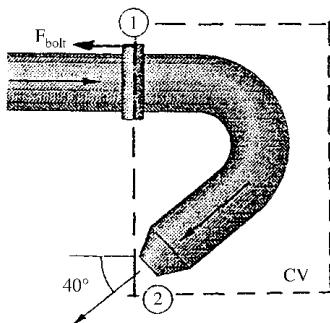

Fig. P3.60
- 3.60** Water at 20°C flows through the elbow in Fig. P3.60 and exits to the atmosphere. The pipe diameter is  $D_1 = 10 \text{ cm}$ , while  $D_2 = 3 \text{ cm}$ . At a weight flow rate of 150 N/s, the pressure  $p_1 = 2.3 \text{ atm}$  (gage). Neglecting the weight of water and elbow, estimate the force on the flange bolts at section 1.